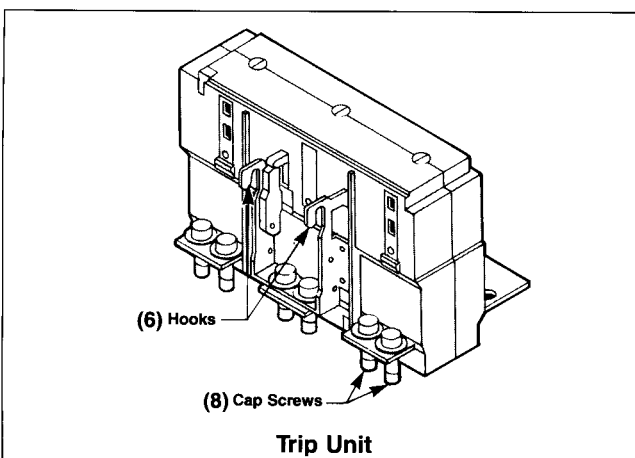

Figure 1
- B. Remove load cover (2) from breaker frame. Six #10-32 x 3/4 in. screws (3) and two #10-32 x 1 3/8 in. screws (4).
- C. Lower trip unit (5) into place as shown in Figure 2. The two hooks (6) (Figures 1 and 2) on the trip unit must fit over pins (7) on frame. Breaker handle may be removed to ease assembly.
- D. Secure trip unit to frame. Tighten six 5/16-18 socket head cap screws (8) (Figure 1) to 140 in. lb.
- E. Replace load cover. The six #10-32 x 3/4 in. screws must be installed toward the line side of the circuit breaker. The two #10-32 x 1 3/8 in. screws are installed on the load end. Tighten all load cover screws to 25 in. lb. Replace handle if removed; note tab (9) on front of handle must be toward line end.